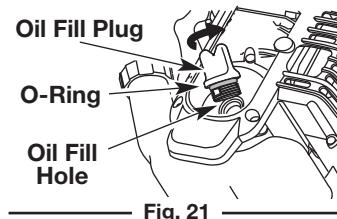

Fig. 21
**NOTE:** Make sure the O-ring is in place on the oil fill plug when checking and changing the oil (Fig. 21).